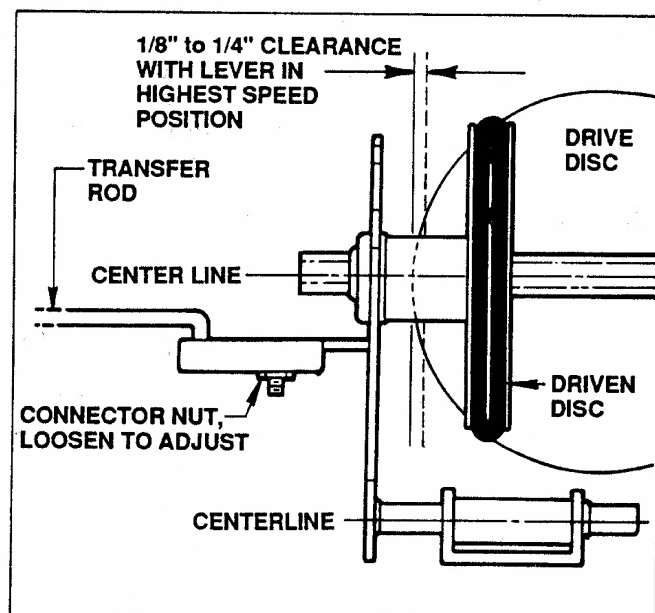

FIGURE 5
STEP 9: If properly adjusted, the edge of the driven disc will be $\frac{1}{8}$ " to $\frac{1}{4}$ " in from outer edge of the drive disc. See Figure 5.